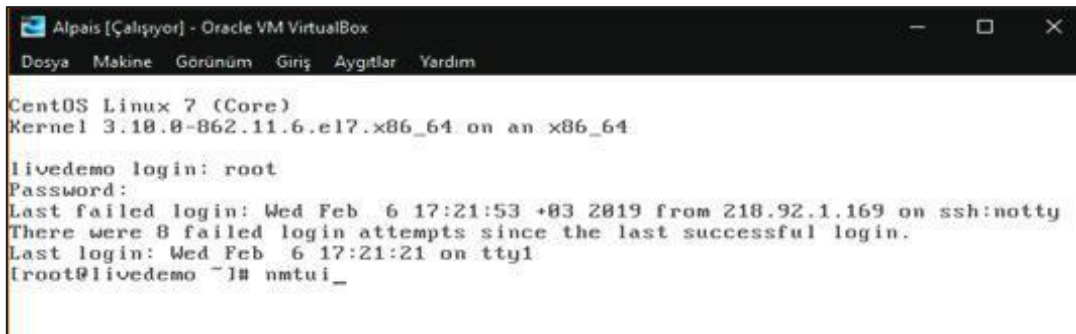

Figure 19. Console Screen
- f) After the login information, 'nmtui' is written to the console screen to make Network configuration settings. (see Figure 19)